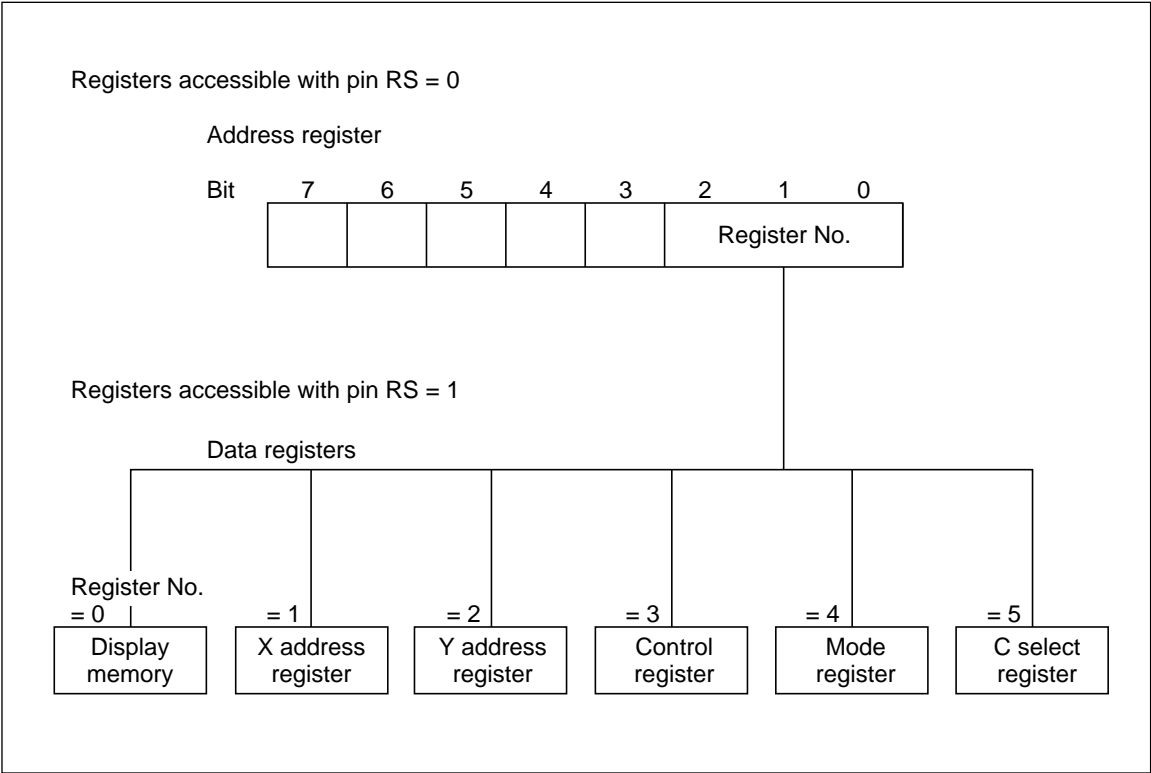

Figure 6 Relationship between Address Register and Register No.
(1) Access
Figure 6 shows the relationship between the address register (AR) and internal registers and display memory in the HD66108T. Display memory shall be referred to as a data